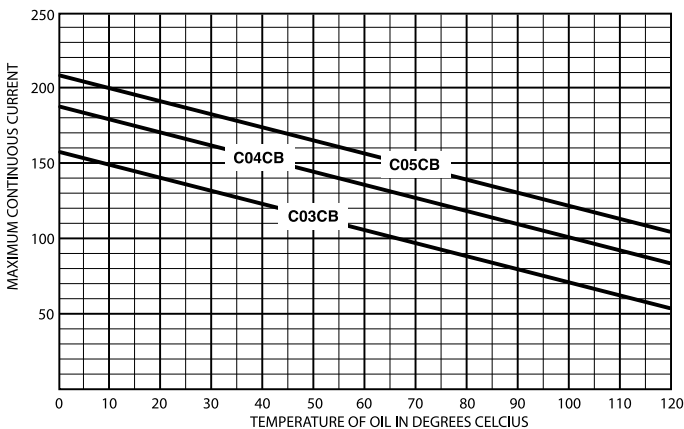

Figure 2. Deration curves for high ampere overload links.
* For current ratings at temperatures above 25 °C, refer to deration curves in Figure 2.
Deration curves for the high ampere overload links are shown in Figure 2. Long term overload curves for selected transformer ratings are also available upon request.